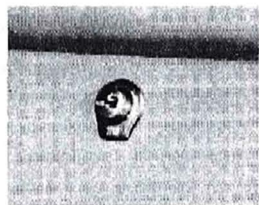

Fig. 14—Package Compartment Lock
**Instrument Panel Compartment Lock.** The door to the convenient package compartment at the right end of instrument panel is controlled by a lock on the compartment door (fig. 14). When the lock is unlocked, depressing the lock cylinder releases